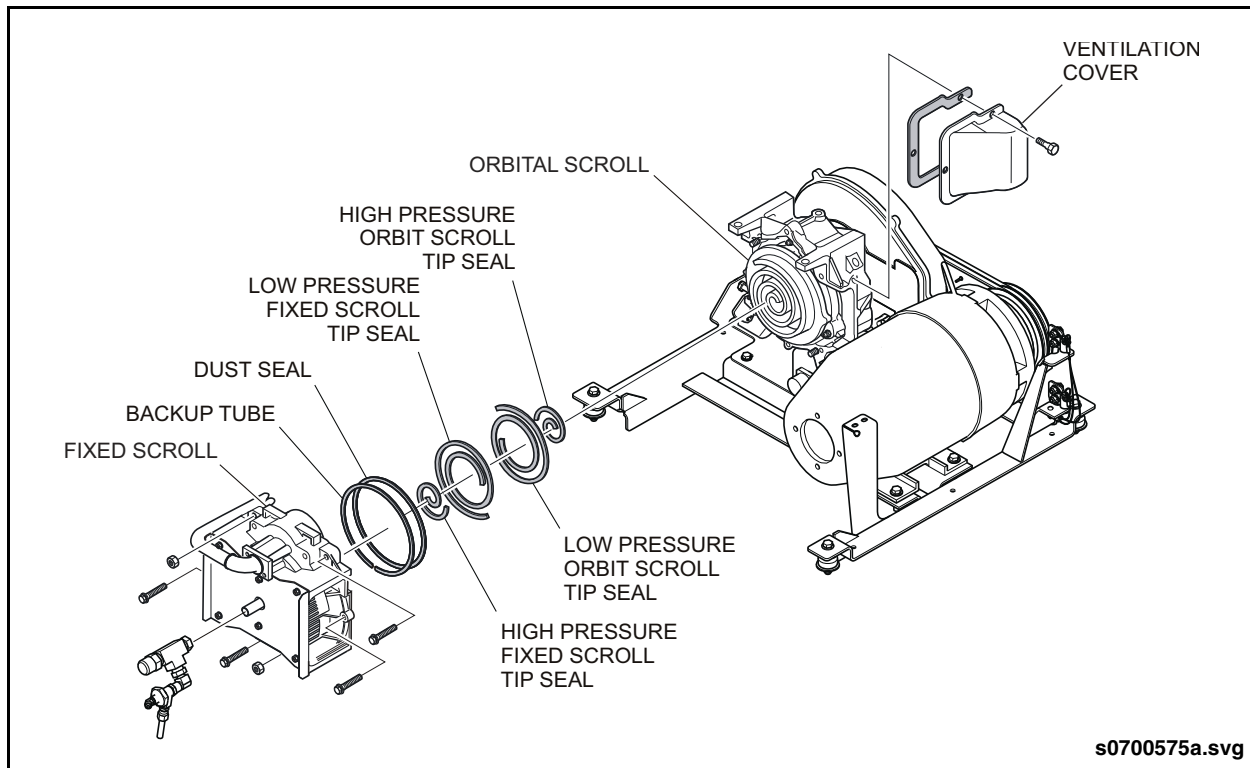

Fig. 4: Scroll Compressor Assembly
2. Remove the hardware from fixed scroll assembly and separate from orbital scroll assembly. See “Fig. 4: Scroll Compressor Assembly” on page 5.